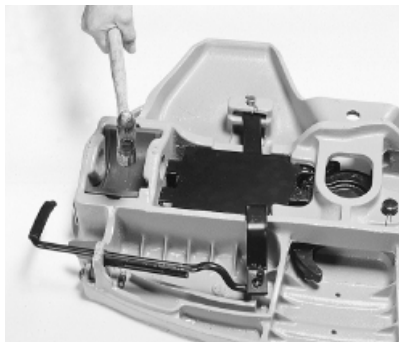

Figure 65
1. Drive out the bracket shoes at both sides with a hammer and drift pin or similar tools at the bracket shoe stop side of the plate casting pocket (*Figure 65*).